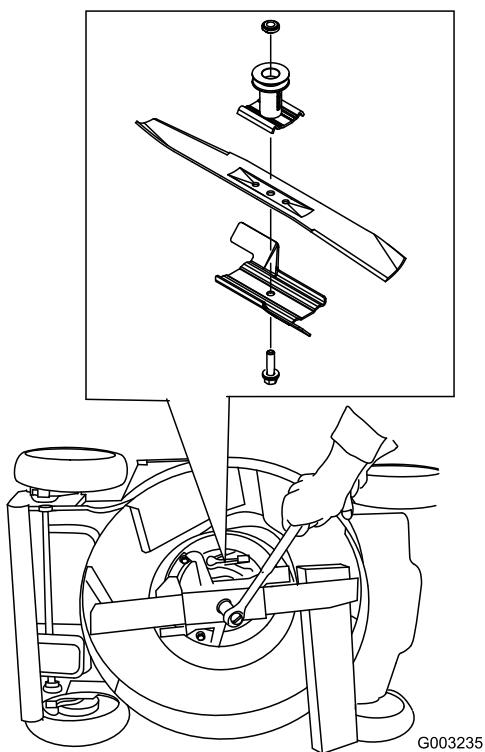

Figure 39
3. Use a block a wood to hold the blade steady (Figure 39).